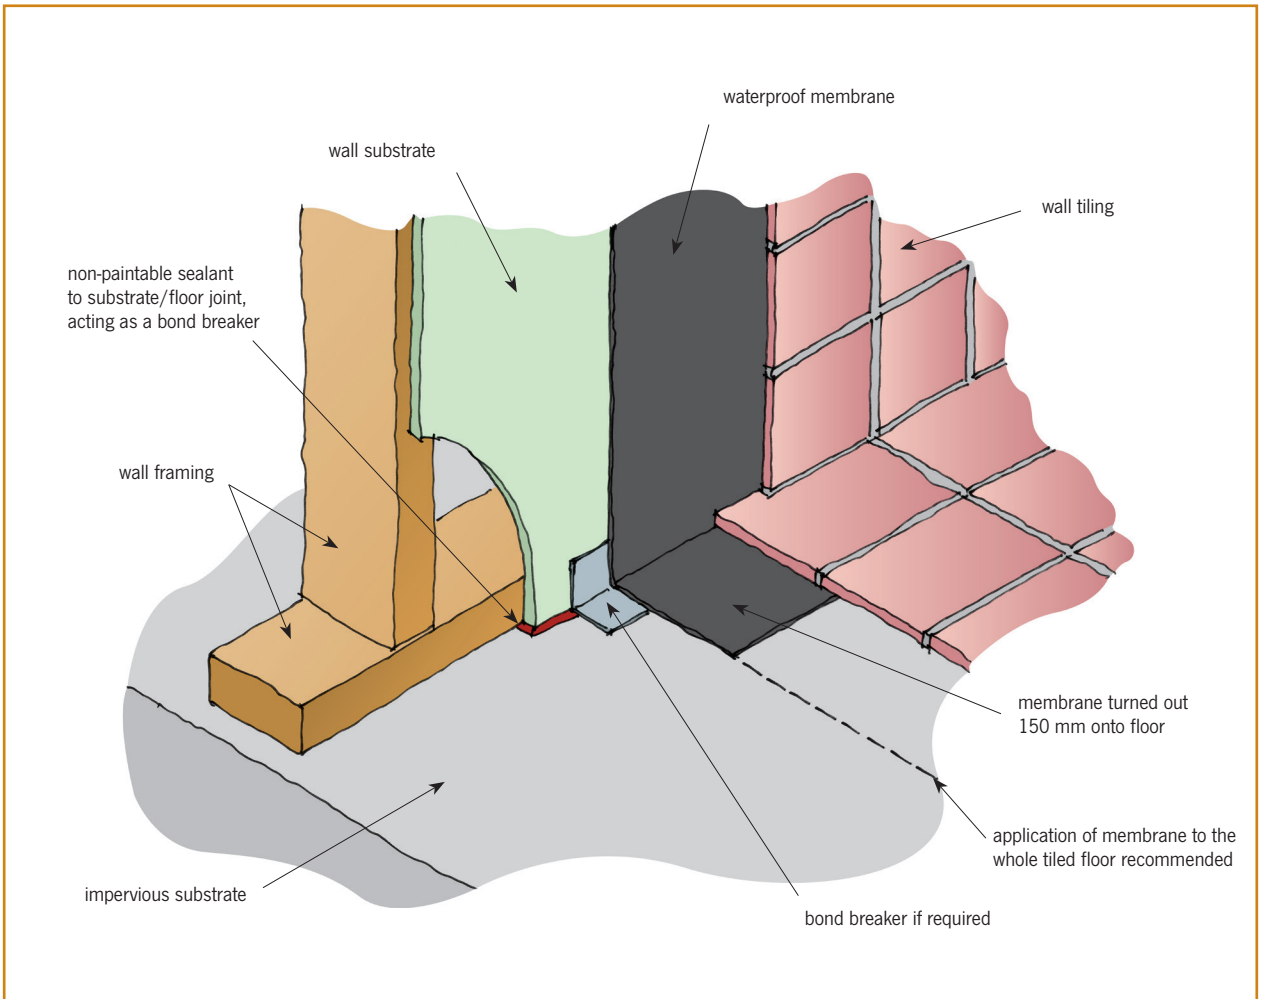

Figure 5. Wall-to-floor junction detail for an impervious floor such as steel-trowelled concrete.
7.1.6 Where tiles are laid over an impervious floor substrate such as steel-trowelled concrete, the detail must ensure the continuity of the waterproofing membrane at the wall-to-floor junction – Figure 5 gives one option.